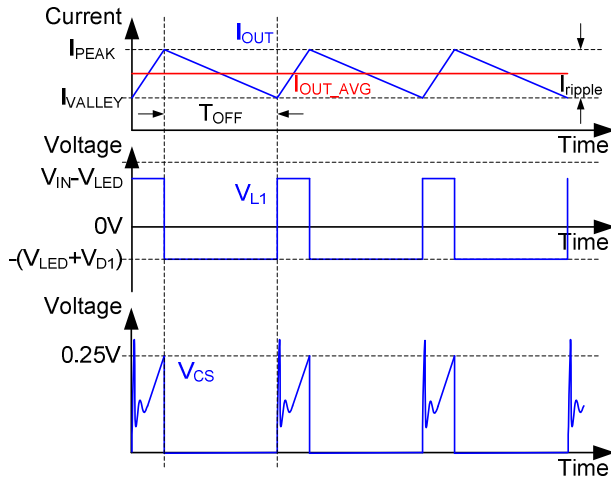

Figure-5 The waveforms of V_{CS} , V_{L1} and I_{OUT} that shown in the Figure-1.
GR8210 operates with the peak current sensing and the constant off time. The peak current sensing and the line voltage compensation align the peaks of V_{CS} identically to determine the same I_{PEAK} that shown in the Figure-5. The I_{VALLEY} was determined by the T_{OFF} . GR8210 provides an off time setting function via connect a resistor from R_T to GND. A simple way is connect R_T to VCC directly to use the default off time that the value is approximately 9.3 μ s.
The (2) and (3) were generated according to the Figure-5. They usually used to determine the inductance of the power inductor.
Where, the I_{OUT} is output current that user defined, the K . is the percentage of I_{OUT} to estimate the worse case and the value usually is range of 20%~40%. Beside, the maximum rate current and saturation current of the inductor must greater than the I_{PEAK} that shown in the Figure-5.
Two specifications of freewheel diode must be considered, the maximum reverse voltage must be greater than maximum voltage across the diode. The average rectified current also must be greater than I_{PEAK} that shown in the Figure-5. The ultra fast diode is recommended to use as the freewheel diode.